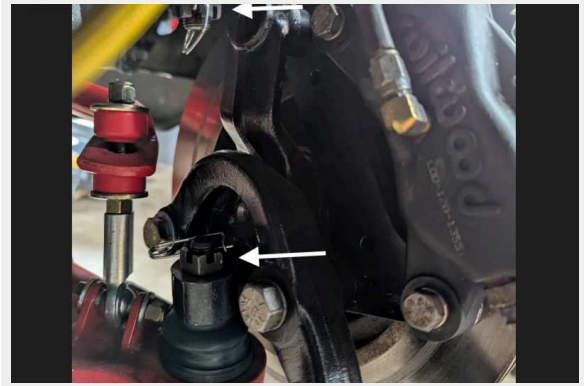

Figure 5: Remove Balljoint Nuts
- 11) Loosen the upper ball joint nut with the same procedure as the lower, leaving the nut on the threads. Using the hammer method as above, loosen the upper ball joint from its position. **Fig 5**